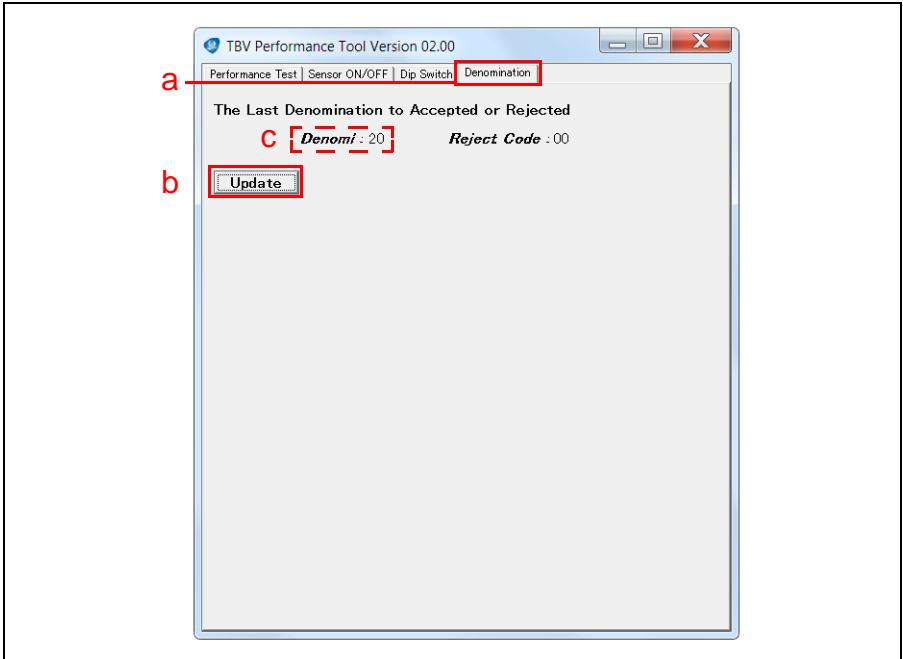

Figure 10 TBV Performance Tool Denomination Screen
- **Denomination Update** - Click the Denomination tab (Figure 10 a) to view the Denomination Screen, then click the "Update"  Screen Button (Figure 10 b) to confirm the value of the Banknote inserted.
As an example, by inserting a Banknote into the TBV Unit and clicking the Denomination tab's "Update"  Screen Button, the Banknote value will be displayed in the *Denomi:* field (Figure 10 c).